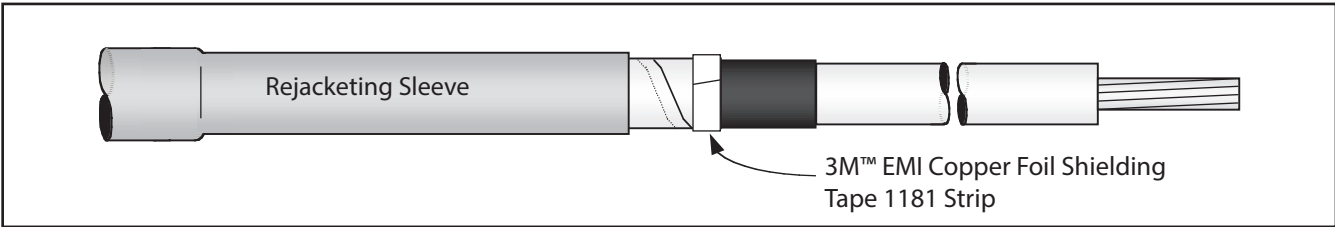

Figure 11
4.2 Secure cable copper tape shield ends with 3M™ EMI Copper Foil Shielding Tape 1181 Strip (Figure 11).